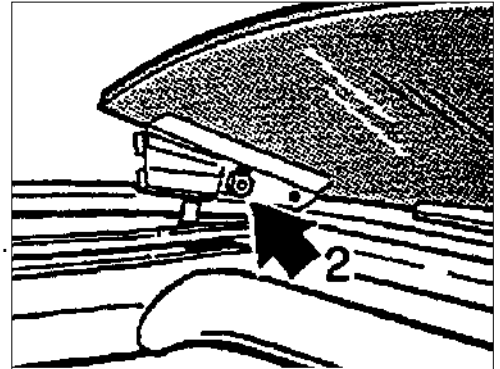

Figure 5
Open the wind deflector and loosen the left and right mounting nuts (Figure 5, pos. 2). Adjust the wind deflector in the slots so that in the closed position it has a slight preload on the seal.
To avoid wind noises with the wind deflector closed, the rear upper edge of the wind deflector should be approx. 0.5 to 1.0mm higher than the front upper edge of the glass sliding roof panel. The gap around the glass should be even. If necessary straighten panel. Torque nuts (Figure 5, pos.2) to 5.5 + 0.5 Nm (4 ft/lb).